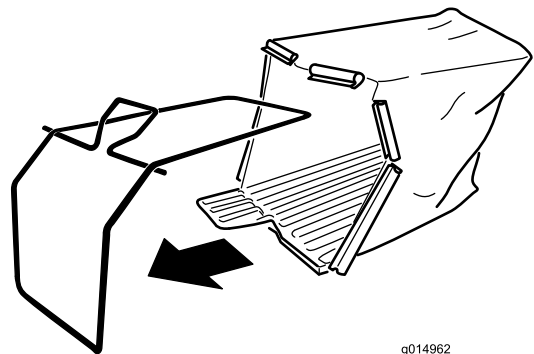

Figure 5
1. Slide the bag over the wire frame as shown in Figure 5.